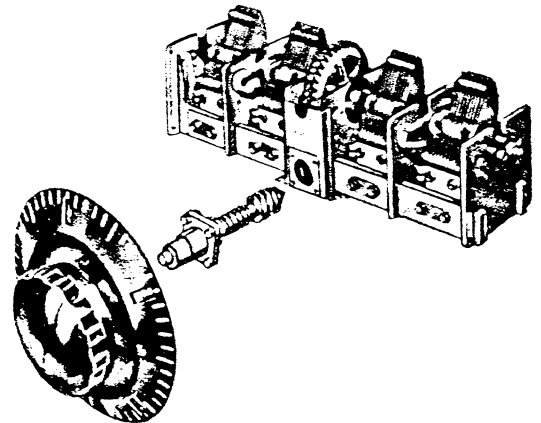

Figure 24. Main tuning gear and split spring loaded worm wheel.
a. **INSPECT (I)**. Check the antibacklash gears for proper operation by varying the panel tuning controls. (See fig. 24.)